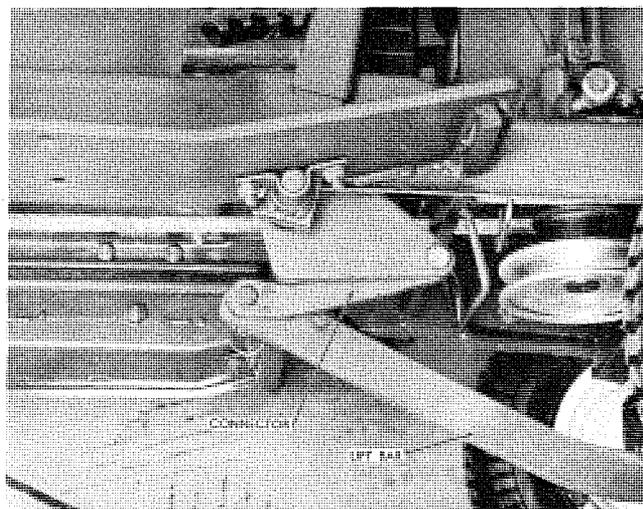

FIGURE 1
2. Install the connector on the inside of the tractor lift plate as shown in Figure 1. A spacer is used between the connector and lift plate. The connector is held in place with the  $\frac{3}{8}$ -16 bolt and nut.